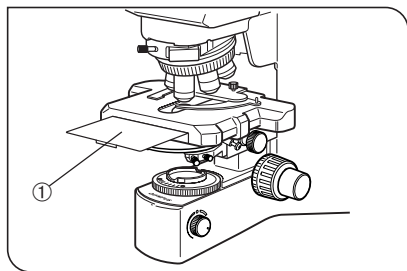

Fig. 4
If this occurs and if you do not need transmitted light DIC, either lower the condenser or use the light shield sheet ① provided with the reflected light fluorescence attachment. (Fig. 4)
4. Due to the large numerical aperture (NA), the U-DIC60, U-DPO60S, U-DIC100 or U-DP100 DIC prism for 60X and 100X objectives can also be used for brightfield observation.